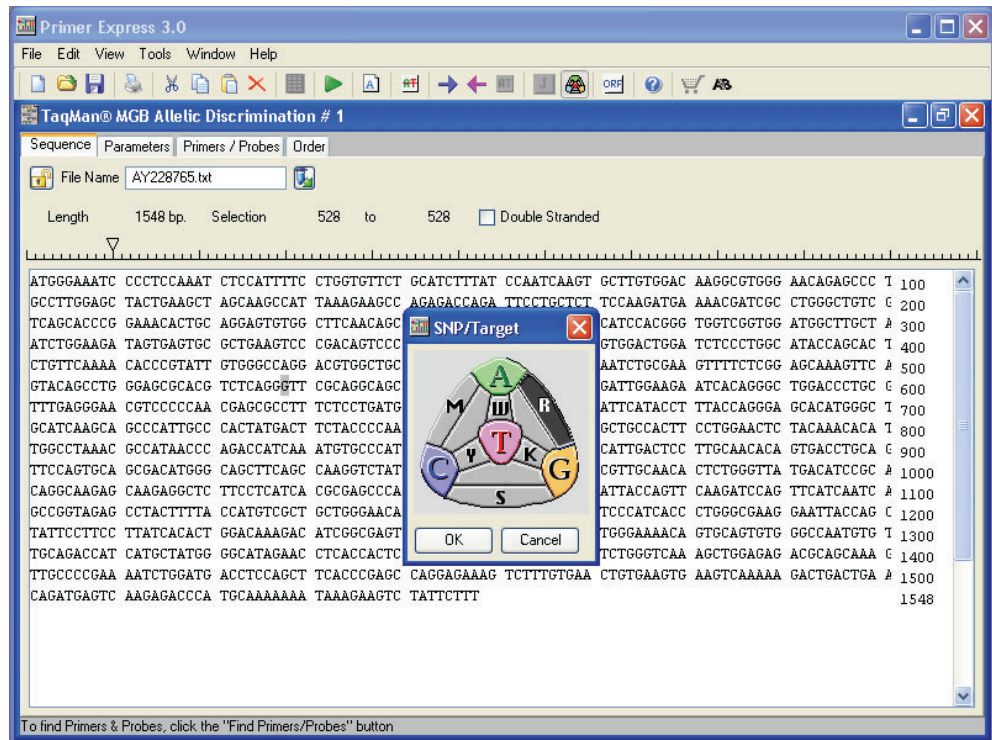

Figure 10. Determining variant using SNP Target Tool
2. Select **Edit > Annotate > SNP Target** () then select the variant for the SNP site. To determine the variant to select, find the two possible variant bases for your SNP, then click the code between the two bases. In the example sequence provided, the SNP target is located at position 528 as a **G/A** variant, so click **R**, then **OK** (see “Figure 10. Determining variant using SNP Target Tool” on page 33).